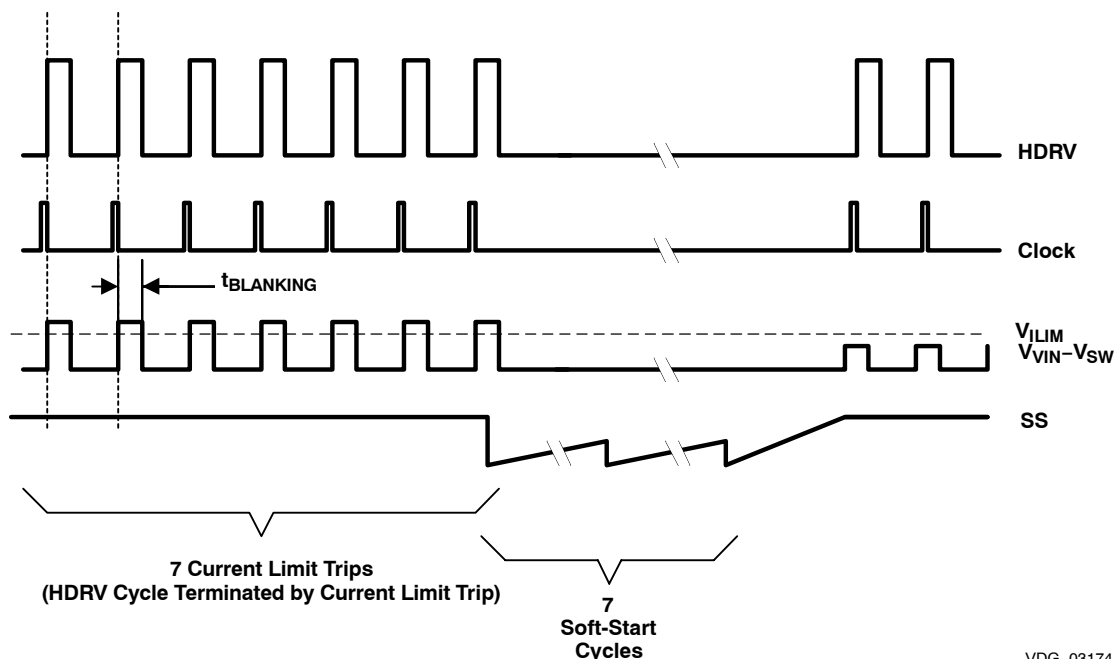

Figure 11. Typical Fault Protection Waveforms
The second tier protection incorporates a fault counter. The fault counter is incremented on each cycle with an overcurrent pulse and decremented on a clock cycle without an overcurrent pulse. When the counter reaches seven (7) a fault condition is declared by the controller. When this happens, the outputs are placed in a state defined in Table 2. Seven soft-start cycles are initiated (without activity on the HDRV and LDRV outputs) and the PWM is disabled during this period. The counter is decremented on each soft-start cycle. When the counter is decremented to zero the PWM is re-enabled and the controller attempts to restart. If the fault has been removed the output starts up normally. If the output is still present the counter counts seven overcurrent pulses and re-enter the second tier fault mode. Refer to Figure 11 for typical fault protection waveforms.